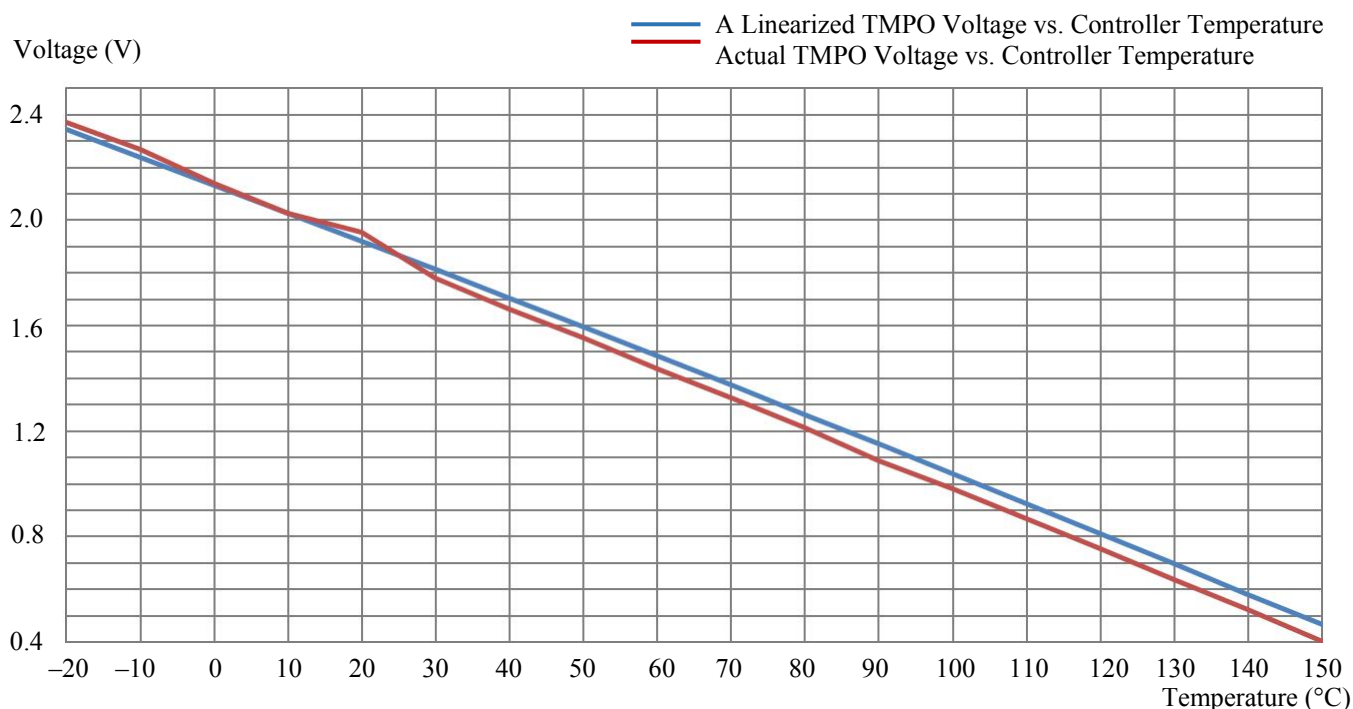

Figure 8. Controller Internal Temperature vs. TMPO Voltage
Within the most commonly used temperature range of between 0°C to 100°C , the maximum error occurs at about 1.5V, at which the temperature error between the calculated data by using the formula (1) and the approximated data obtained by using the linear equation (2) is about 0.4°C , with the linear data being a little lower. The curves of the 2 sets of the data are plotted in Figure 8.